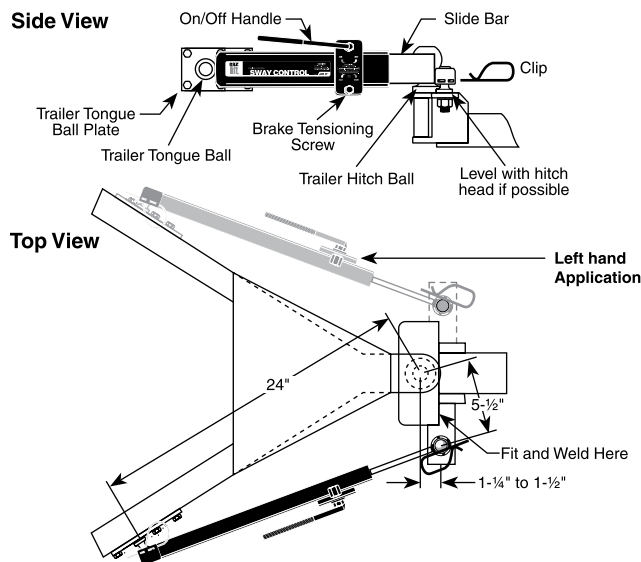

Figure 2
- Measure and mark a point on the trailer tongue 24" from the center of the trailer hitch ball to the right side of the trailer frame for #48380 or left hand side of the trailer frame for #48381 to determine the location of the Trailer Tongue Ball plate as shown in Figure 2.